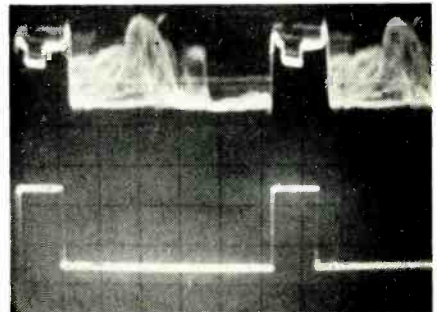
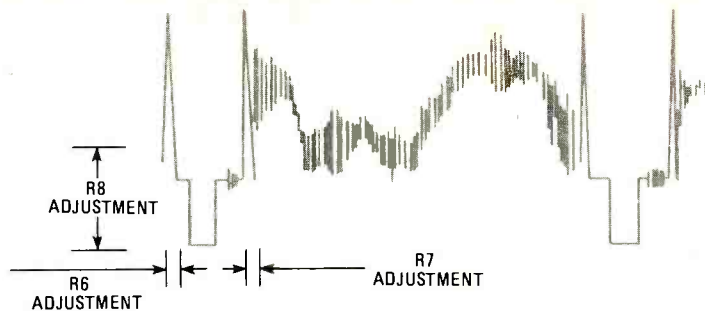

FIG. 8—UPPER TRACE shows scrambled signal; lower one shows gating pulse from decoder.
FIG. 10—IDEALIZED VERSION of signal in Fig. 9 shows critical decoder alignment points.
- Adjust R6, R7, and R8 to obtain the waveform shown in Figs. 8, 9 and 10. First adjust R6 and R7, then R8, to obtain the waveform shown in Fig. 10. Some slight readjustment of R6 and R7 may be necessary to eliminate spik-